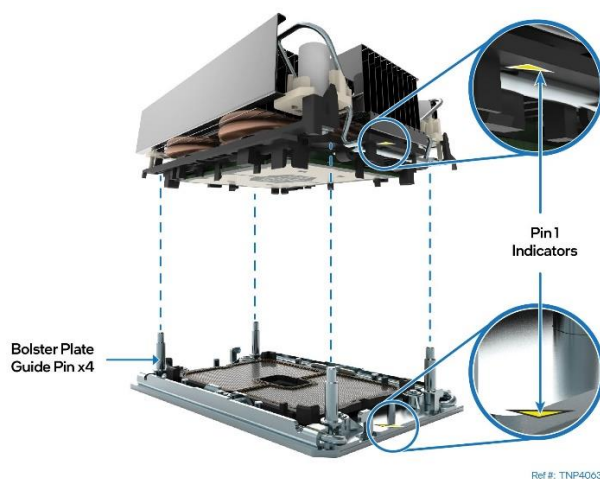

Figure 15. PHM Alignment with Processor Socket Assembly
1. Orient and position the PHM over the processor socket (see Figure 15)